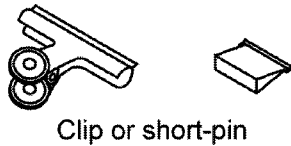

Fig. 1
2. In order to prevent static electricity damage to the laser diode, use a short pin or similar tool to short the optical pickup's flexible circuit boards after they have been disconnected from the main circuit board. (as shown in **Fig. 1**)